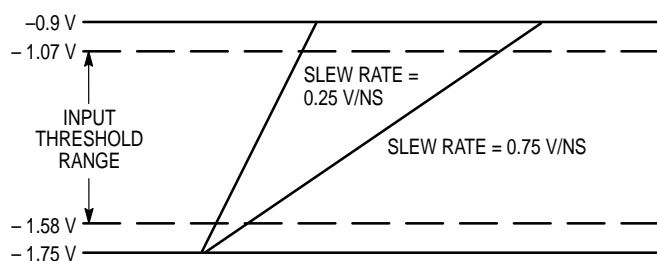

Figure 4. ECL Dispersion Test Input Conditions
3. Refer to figure 4 and note that the input is at 850mV ECL levels with the input threshold range between the 20% and 80% points. The delay is measured from the crosspoint of the input signal and the threshold value to the crosspoint of the Q and \bar{Q} output signals.
Figure 4 and Figure 5 define a range of input conditions which incorporate varying input slew rates and input voltage overdrive. For input parameters that adhere to these constraints the propagation delay can be described as: